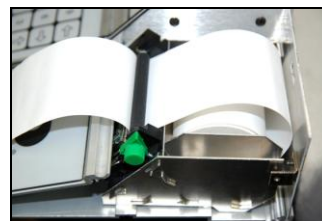

Figure 43: *Incorrect Paper Feed*
4. Place the roll of paper into the printer compartment so that the paper feeds up from underneath the roll (*Figure 42* and *Figure 43*). If the paper is placed incorrectly, the printer will act like it is printing, but no text will appear on the paper.